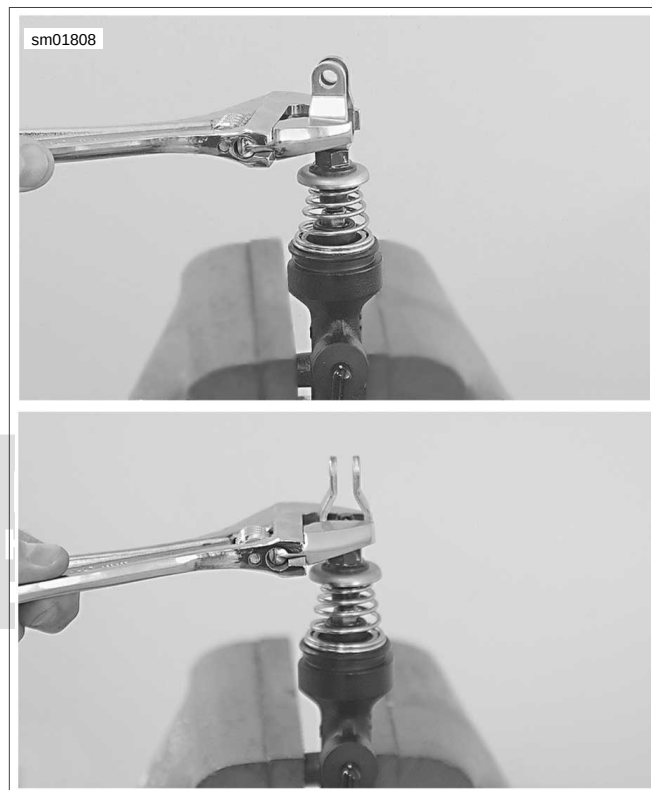

Figure 2-104. Tightening Yoke (Top: Incorrect, Bottom: Correct)
See Figure 2-104. Grip yoke by the edges with an adjustable wrench. Do not grip yoke by the flats or the yoke may become deformed.
- See Figure 2-104. Hold yoke with an adjustable wrench. Using an open-end wrench, loosen shoulder nut. Remove yoke.
See Figure 2-104. Grip yoke by the edges with adjustable wrench. do not grip yoke by the flats of the yoke may become deformed.
14. See Figure 2-104. Holding yoke with an adjustable wrench, turn shoulder nut back against yoke. Tighten to 130-173 in-lbs (14.7-19.6 Nm).